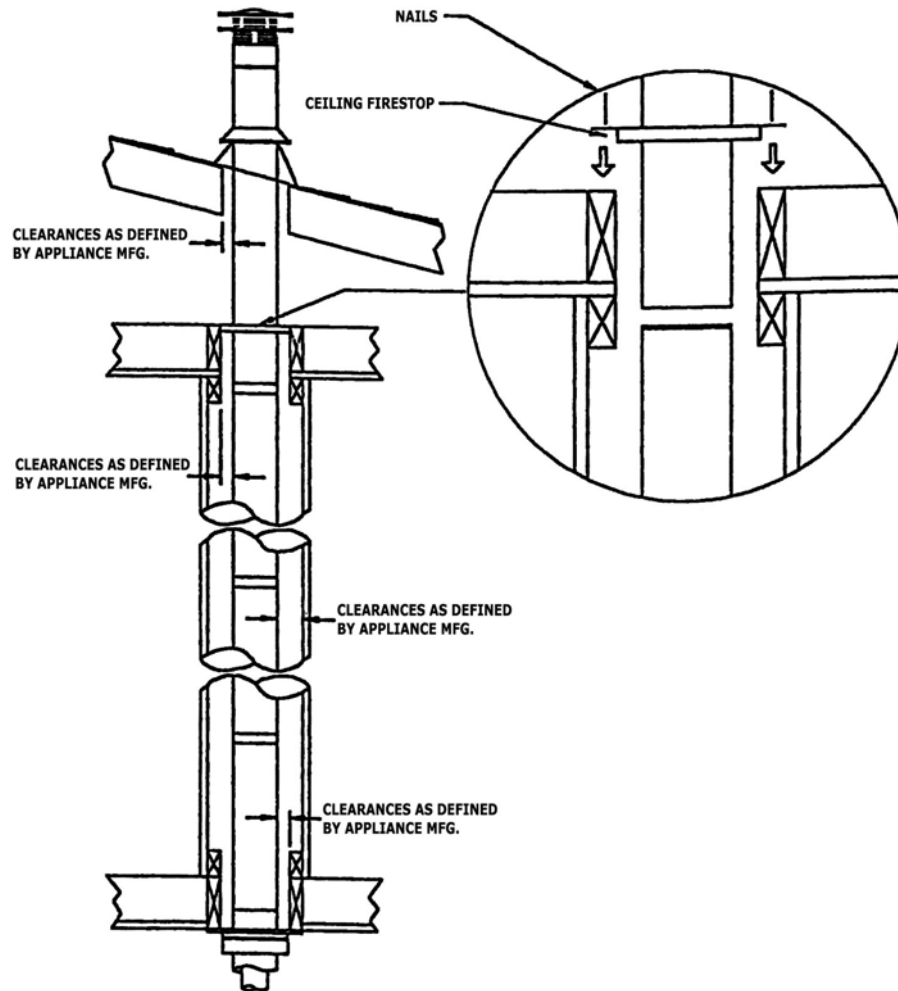

Figure 14
- ◆ For multi-story vertical installations, a Ceiling Firestop, (Simpson-Dura-Vent, Part 963) is required at the second floor, and any subsequent floors (Figure 14). The opening should be framed to 10" x 10" inside dimensions, in the same manner as shown in Figure 11.